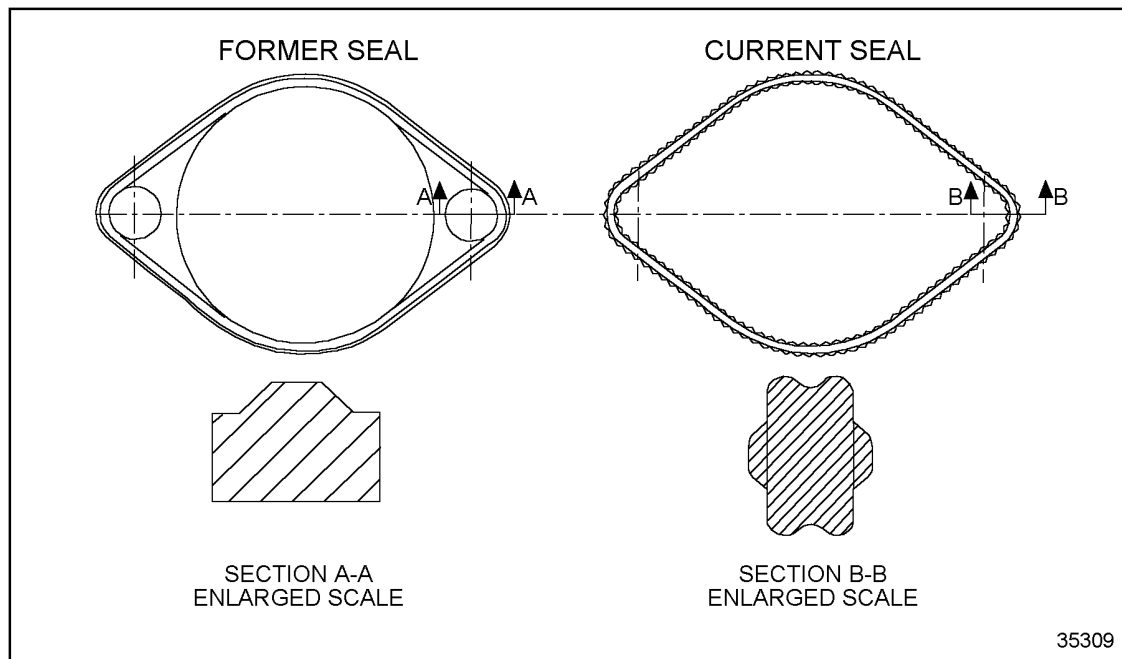

Figure 1-333 Camshaft Thrust Plate Oil Seal
3. Install diamond seal into its groove on the engine side of the thrust plate. The former two-bolt thrust plate oil seal design was redesigned to provide superior oil sealing characteristics. See Figure 1-333 for design configuration. The current thrust plate oil seal uses a three bolt design, as of serial number 4R21236.